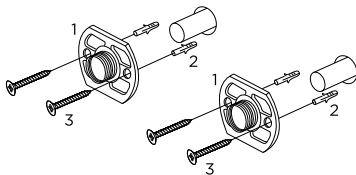

Fig.2
5. Place the wall plates (1) over the supply pipes. Using the wall plugs (2) and screws (3) provided fix the wall plates to the wall (See Fig.2).